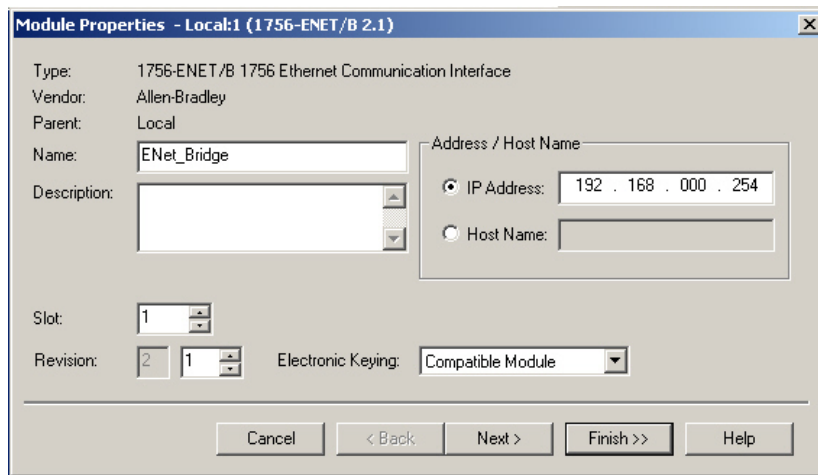

Figure 4.3 Ethernet Bridge Module Parameters
- 3) Enter the following information in the Module Properties window that opens. All parameters not listed here are optional. Figure 4.3 shows a completed screen.